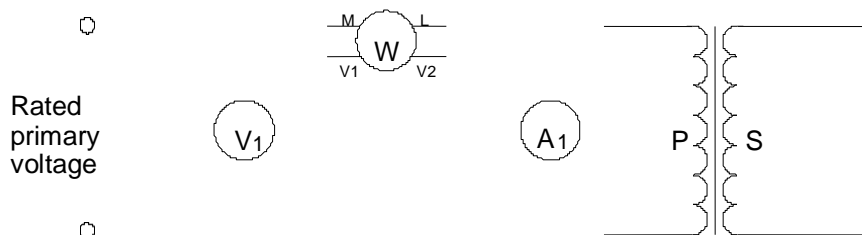

Figure 2
2. Re-draw the components in figure 2 to show the connections required to carry out an open circuit test on the transformer.